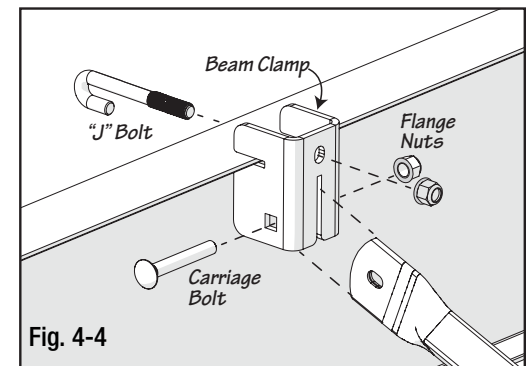

Fig. 4-4
- Slide the beam clamp over the "J" bolt end passing through the top of the beam clamp and slide the clamp over the I-beam frame as shown in Fig. 4-4. Attach flange nut over the "J" bolt and loosely tighten nut.
- Align/insert the lateral strut end in the mounting slot on the bottom of the beam clamp. As shown right in Fig. 4-4.